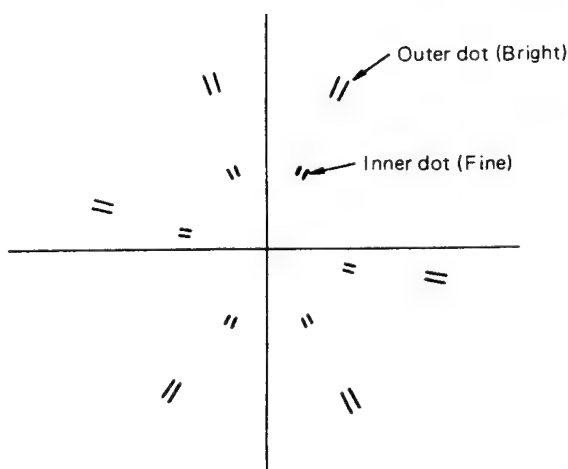

Fig. 6 Vector Pattern of Colour Bar Signal
- (4) Set the oscilloscope to the X-Y mode and connect the pin terminal L2 (B-Y OUT) and pin terminal L3 (R-Y OUT) on PCB-MAIN to the horizontal and vertical inputs of the oscilloscope respectively to display a vector pattern on the screen. (Fig. 6)
- (5) Observing the outermost dots which correspond to normal colour bar, adjust the LEVEL ADJ VR602 and TRANS-OUT T601 on PCB-MAIN alternately to almost coincide the double dot patterns equally for all colours on the scope.